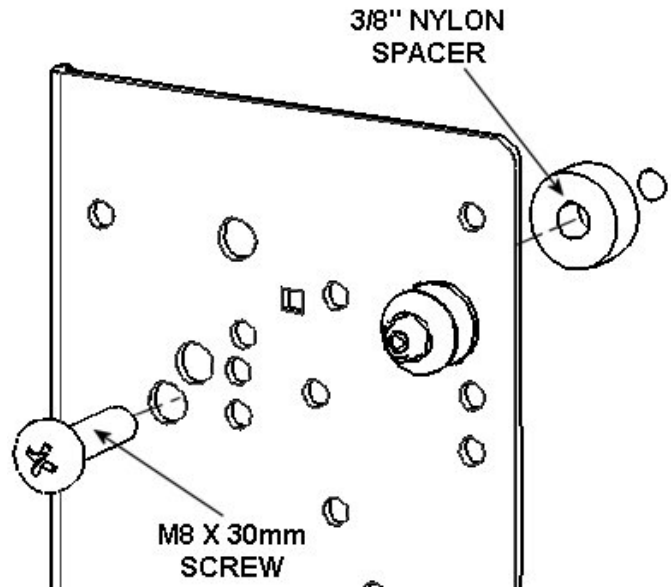
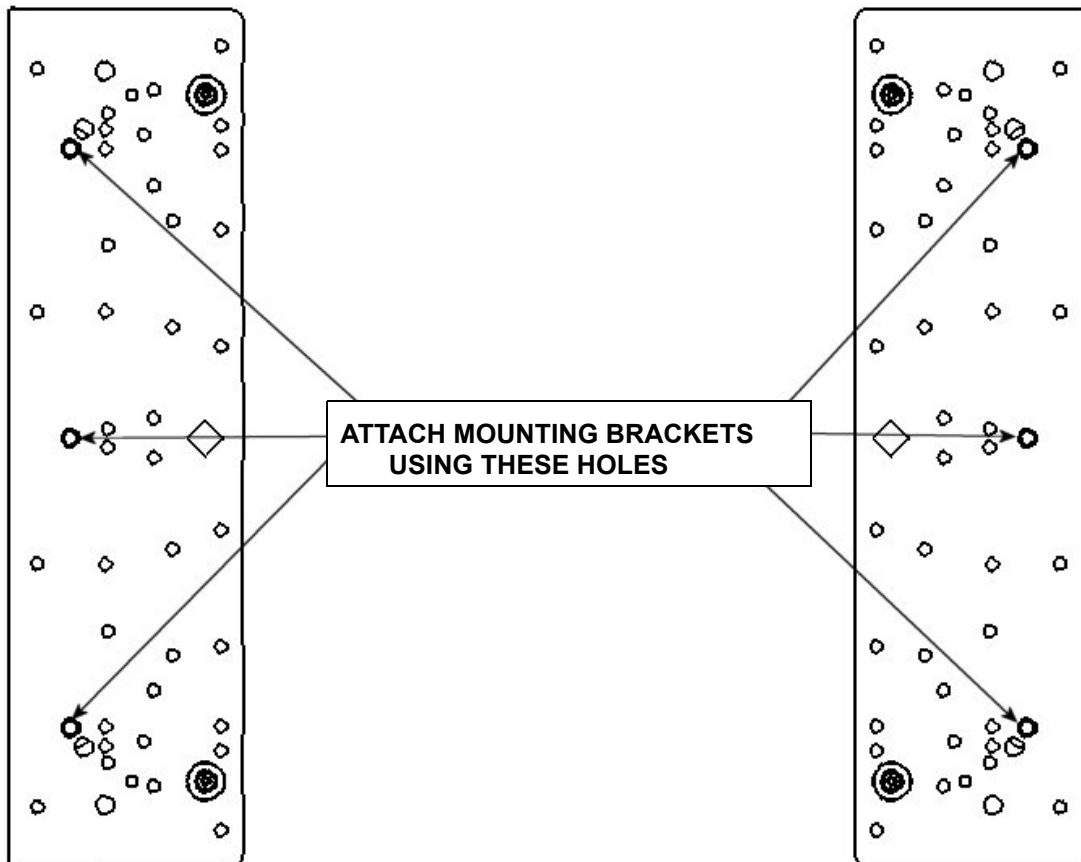

Figure 4. Spacer Installation for Group 1
Figure 5. Bracket Attachment for Group 1
3. Place six 3/8" Nylon spacers over the mounting holes on your display (see Figure 4).
4. Place the interface brackets over the Nylon spacers (see Figure 4 and Figure 5).
6. Using the hardware in the parts bag labeled D, attach the interface brackets to your display (see Figure 5). Do not overtighten the mounting screws.